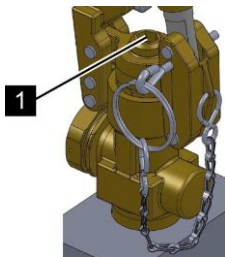

Fig. 165: Allen head screw
15. **L WARNING! Risk due to malfunction of the valve on the pilot distributor! Use a calibrated torque wrench to check whether the Allen head screw (Fig. 165/1) is set with a torque of 12 - 13 Nm (8.85 to 9.59 ft-lb).**